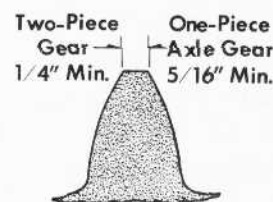

Fig. 8 - Axle Gear Wear Limits
3. Check for wear limits, determined by dimension across the tip of the tooth. The minimum allowable dimension at this point is 5/16" for one piece axle gears and 1/4" for two piece axle gears, Fig. 8. Pinions are similarly measured and qualified according to size as indicated below.